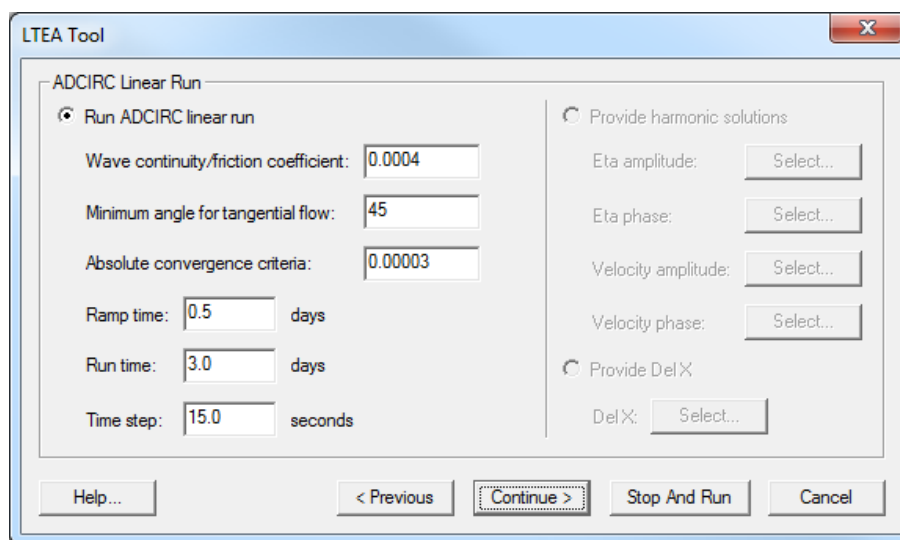

Figure 2 Linear ADCIRC run page of the toolbox
11. Leave all the setting on this page at the defaults (Figure 2) and click the **Continue >** button to move to the next step of the process.